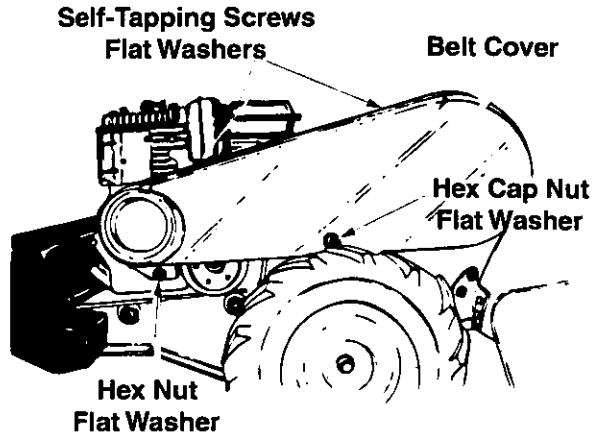

Figure 19
2. Remove the belt cover from the left side of the tiller as follows. See Figure 19. Remove two self-tapping screws and flat washers from the top of belt cover. Remove the hex cap nut and flat washer from the side of the belt cover. Remove the hex nut and flat washer at the bottom of the front of the cover.